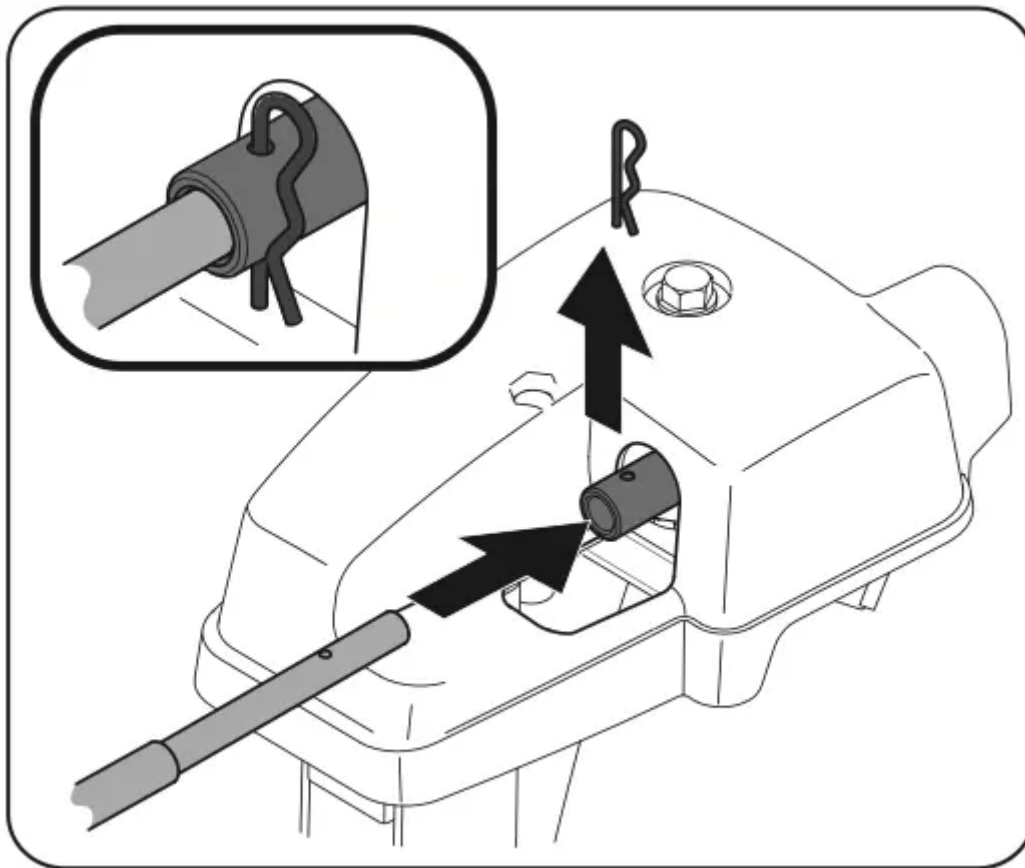

**Figure 28**
3. Secure chute control head to chute support bracket with lock nuts and hex screws removed in Step 1. See Figure 28.